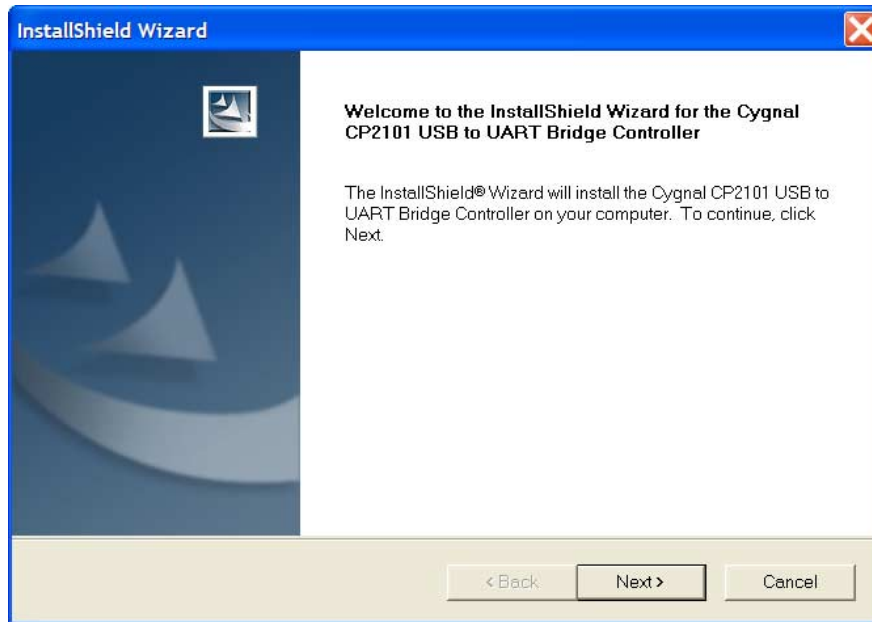

Figure 7 – Launching CP2101 Driver Installation
1. Double-click CP2101_Drivers.exe. The InstallShield Wizard to extract the driver installation files launches, as shown in Figure 7. Click Next.